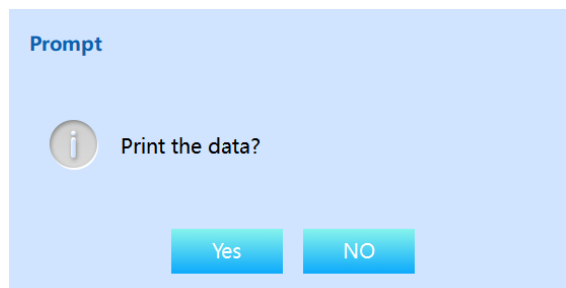

Figure 4-5 Printing
2. Click "Print", the system pops up a window as shown in Figure 4-5.